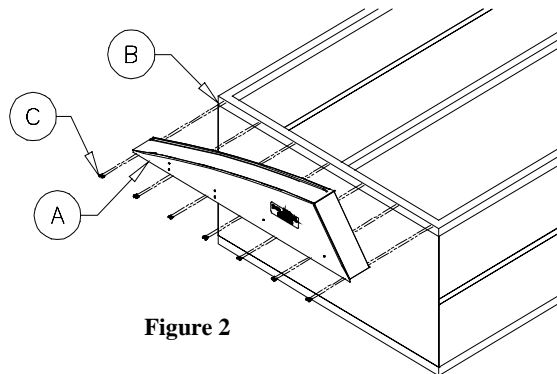

Figure 2
(See Figure 2)
**Procedure:** Center the rear hood on the rear wall of the box with the lower 1 inch flange (A) positioned flush against the outside rear edge of the box. Using a 3/16" drill bit, drill 14 holes through the 1 inch flange and into the box wall (B) placing 2 holes at approximately every 15 inches (see Figure 2). Secure the rear hood using the 1/4"x1" lag screws provided (C).